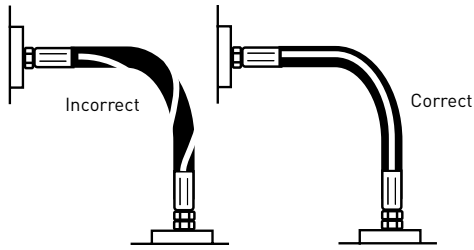

FIGURE 8 — TWIST ANGLE AND ORIENTATION
7.3 Twist Angle and Orientation – Pressure applied to a twisted hose may shorten the life of the hose or loosen the connections. To avoid twisting, use the hose lay line or marking as a reference (see Figure 8).